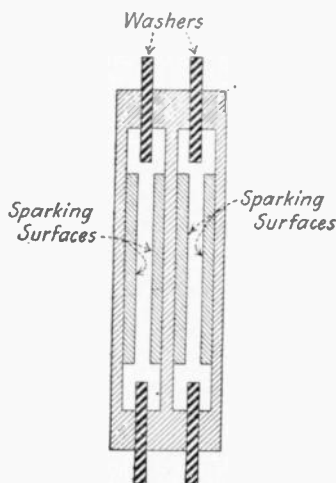

Fig. 27.—A Sectional View of a Simple Quenched Spark Gap.
**F. Quenched spark gap.** Very satisfactory results have been obtained by turning down silver half-dollars for quenched spark-gap faces. Fig. 27 shows form. Mica